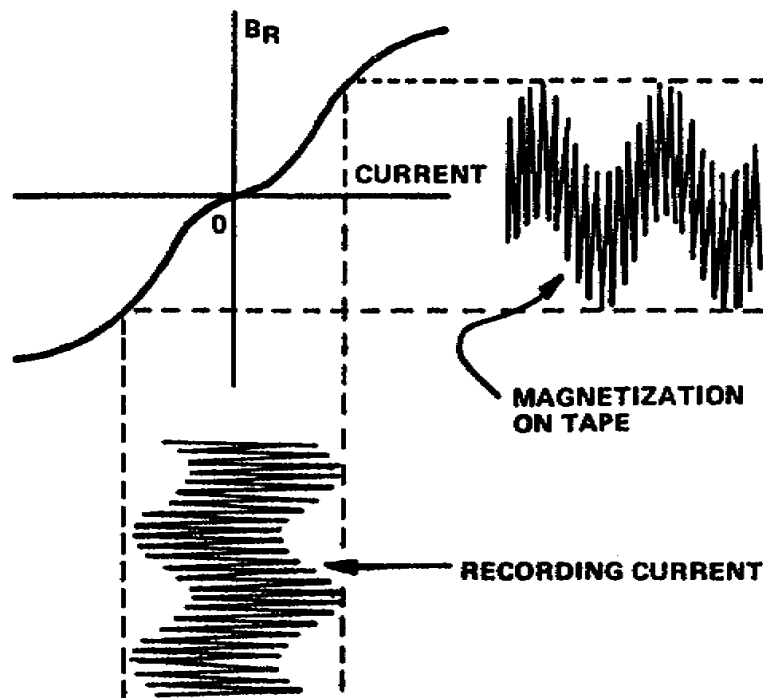

Figure 1-5. Use of high frequency bias recording
1. If a graphical plot of a signal current through the record head against residual flux density produced in the tape is made, a nonlinear magnetic transfer curve is obtained. In audio recording on magnetic tape, the distortion due to nonlinearity is reduced by adding a high-frequency, constant-amplitude alternating current to the signal current in the coils of the record head (fig 1-5). Both the upper and lower peaks of the envelope then trace out replicas of the signal current. The combined effect is the same as if two signals were applied to the tape; one confined to a linear segment in the upper part of the transfer curve, and the other to a linear segment in the lower part of the curve.